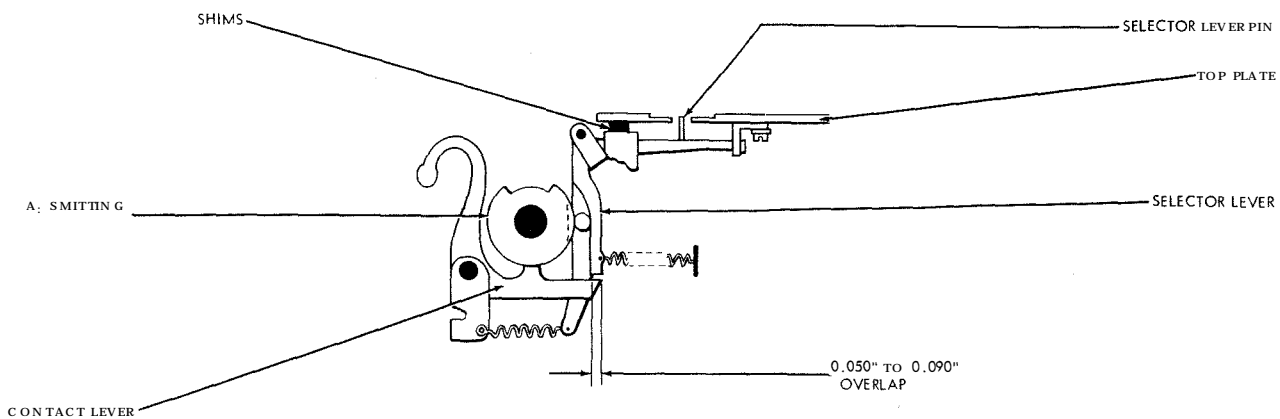

Figure 7-94. Top Plate
(25) TOP PLATE. (See figure 7-94.)